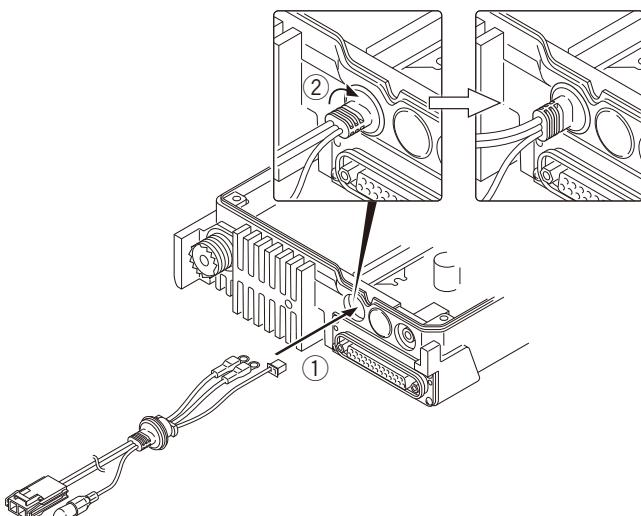
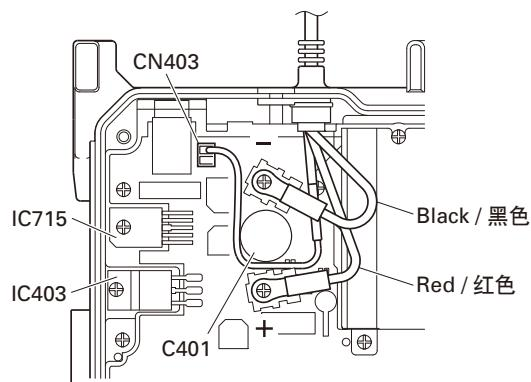

Fig. 4-1 / 图 4-1
Fig. 4-2 / 图 4-2
- Pass the power supply cable through the chassis hole (①) as shown in Figure 4-1 and insert the bush into the chassis hole.
- Rotate the bush of the power supply cable 90 degrees clockwise as viewed from the rear of the chassis. (②)
- Align the + (positive) terminal of the power supply cable (red) as shown in Figure 4-2 and fix it to the terminal strip with a screw.
- Align the - (negative) terminal of the power supply cable (black) as shown in Figure 4-2 and fix it to the terminal strip with a screw.
- 如图 4-1 所示，将电源线穿过底座孔（①），然后将套管插入底座孔。
- 从底座后部方向上看，顺时针 90 度转动电源线的套管。（②）
- 如图 4-2 所示，对准电源线（红色）+（正极）端子，然后用螺丝将其固定到端子板。
- 如图 4-2 所示，对准电源线（黑色）-（负极）端子，然后用螺丝将其固定到端子板。